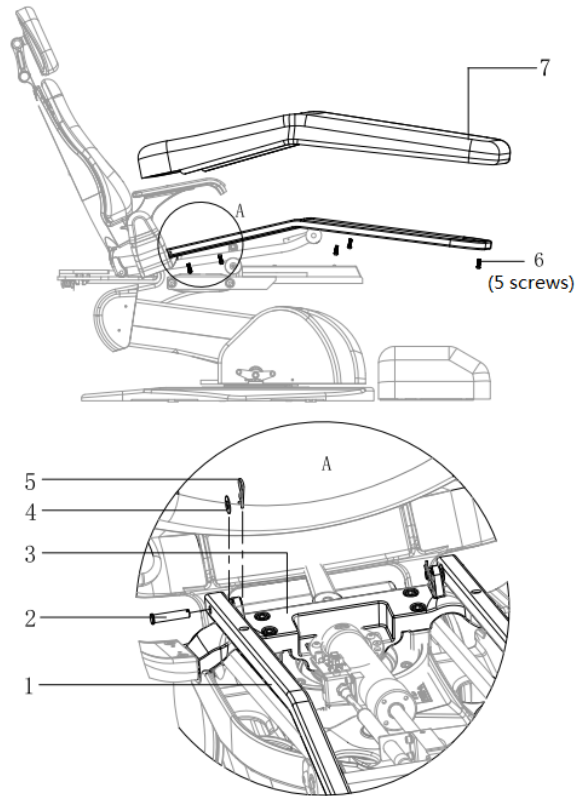

Figure 21. Seat Cushion Installation
1. Put the seat frame ① on the side of the yoke casting ③.
2. Align two screw holes as indicated on Figure 21. Detail A.
3. Place a washer ④ between the seat frame and the yoke casting.
4. Install a connecting pin ② through the hole on each side of the chair.
5. Install an R latch ⑤ through the hole on the connecting pin on both sides.
6. Put the seat cushion ⑦ on top of the seat support.
10. Tighten all 5 screws ⑥.